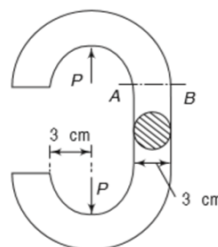

Figure 5
4. (a) The open link shown in Figure 5 below loaded by forces P, each of which is equal to 14700 N. Find the maximum tensile and compressive stresses in the curved end at section AB. [7M]